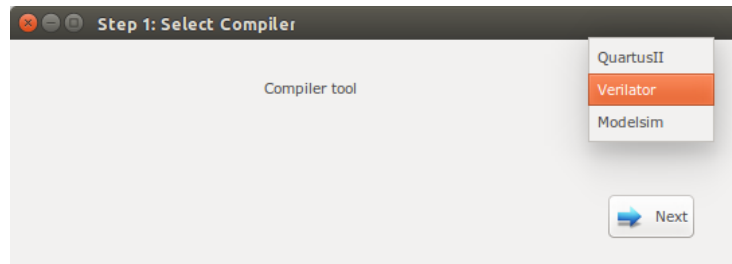

Figure 5.19: Select Verilator compiler.
1. Press Compile RTL button  in right down corner. This should open "select compiler window" as shown in Figure 5.19. Select Verilator as compiler tool then press Next.